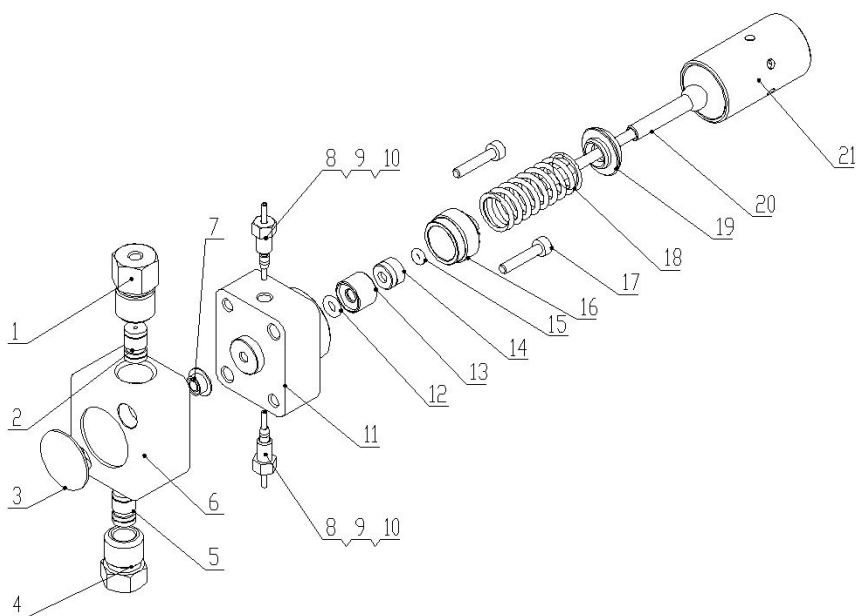
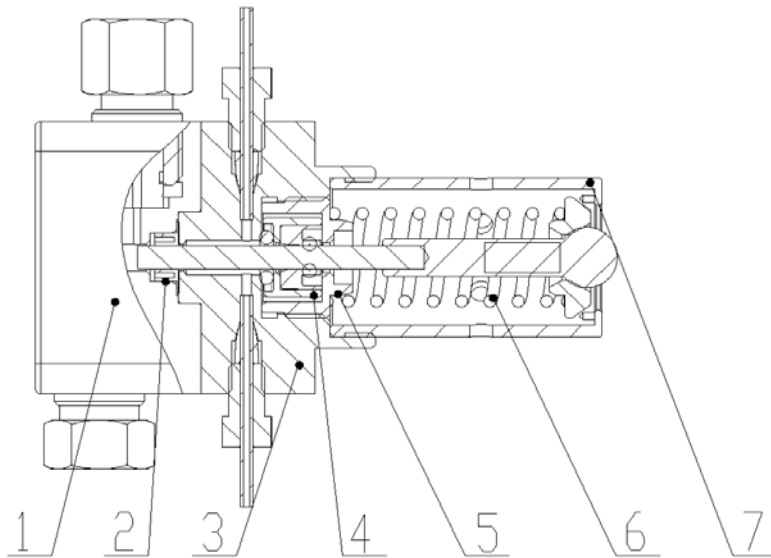

Figure 5-4: pump head assembly
Figure 5-5: Cross-section of sapphire plunger
Pump head disassembly and installation methods are as follows (Refer to figure 5-4, figure 5-5):
- 1) Place the pump head body on a flat surface. Use 2.5# hexagonal key to unscrew the 2 mounting plate screws, #17 on Figure 5-4. Remove the seat (11#).
- 2) Unload the sleeve (figure 5-4 #21), plunger rod components (figure 5-4 #20), plunger spring (figure 5-4 #18), locating sleeve (figure 5-4 #19) etc.
- 4) Take out the primary seal carefully (figure 5-5 #7) (user should not remove it unless replace a new one is needed).
- 5) Put the new primary seal (the openings with spring should be in the direction of the pump head) into the pump head body (figure 5-5#1).
- 6) Place all parts in order according to figure 5-5. Install the pressure plate.